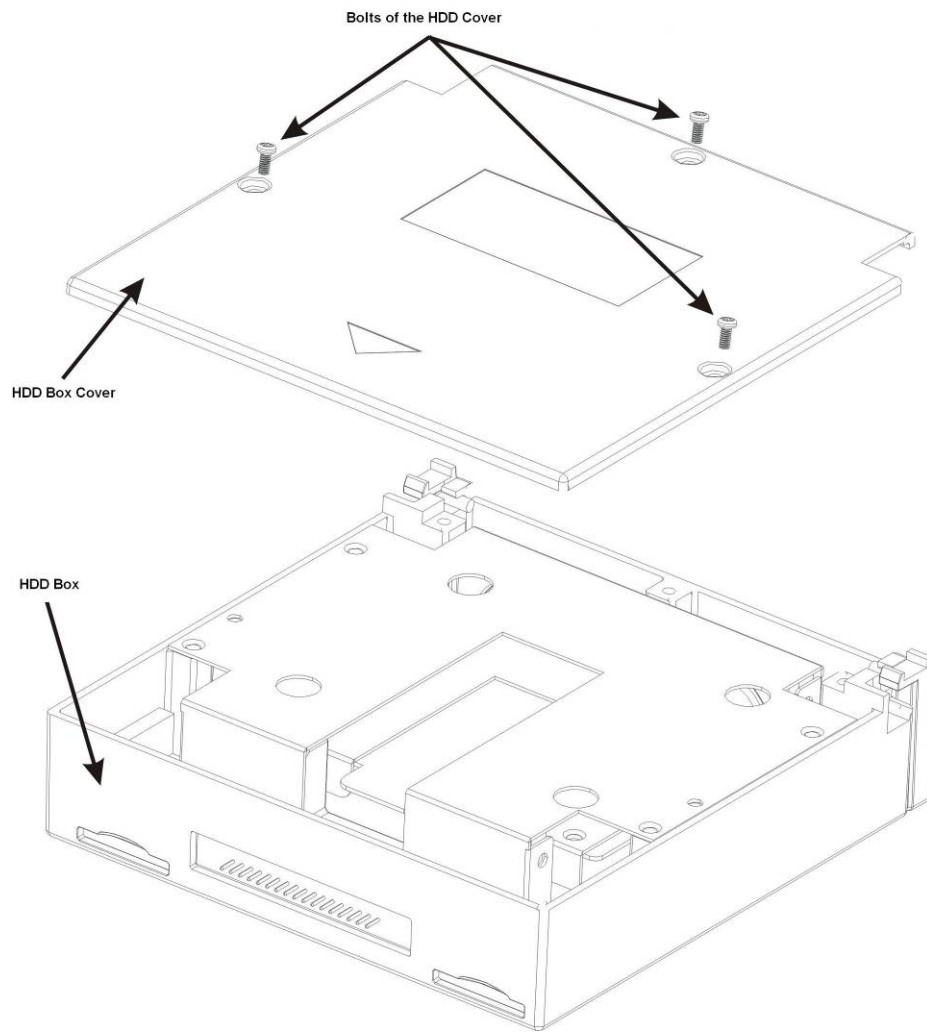

Figure 3-1
1) The HDD box and the parts are shown as below. See Figure 3-1. Please loosen the bolts of the HDD box and then remove the HDD box.
The video input interface is BNC. The input video format includes: PAL/NTSC BNC (1.0V_{P-P}, 75Ω). See Figure 3-1.